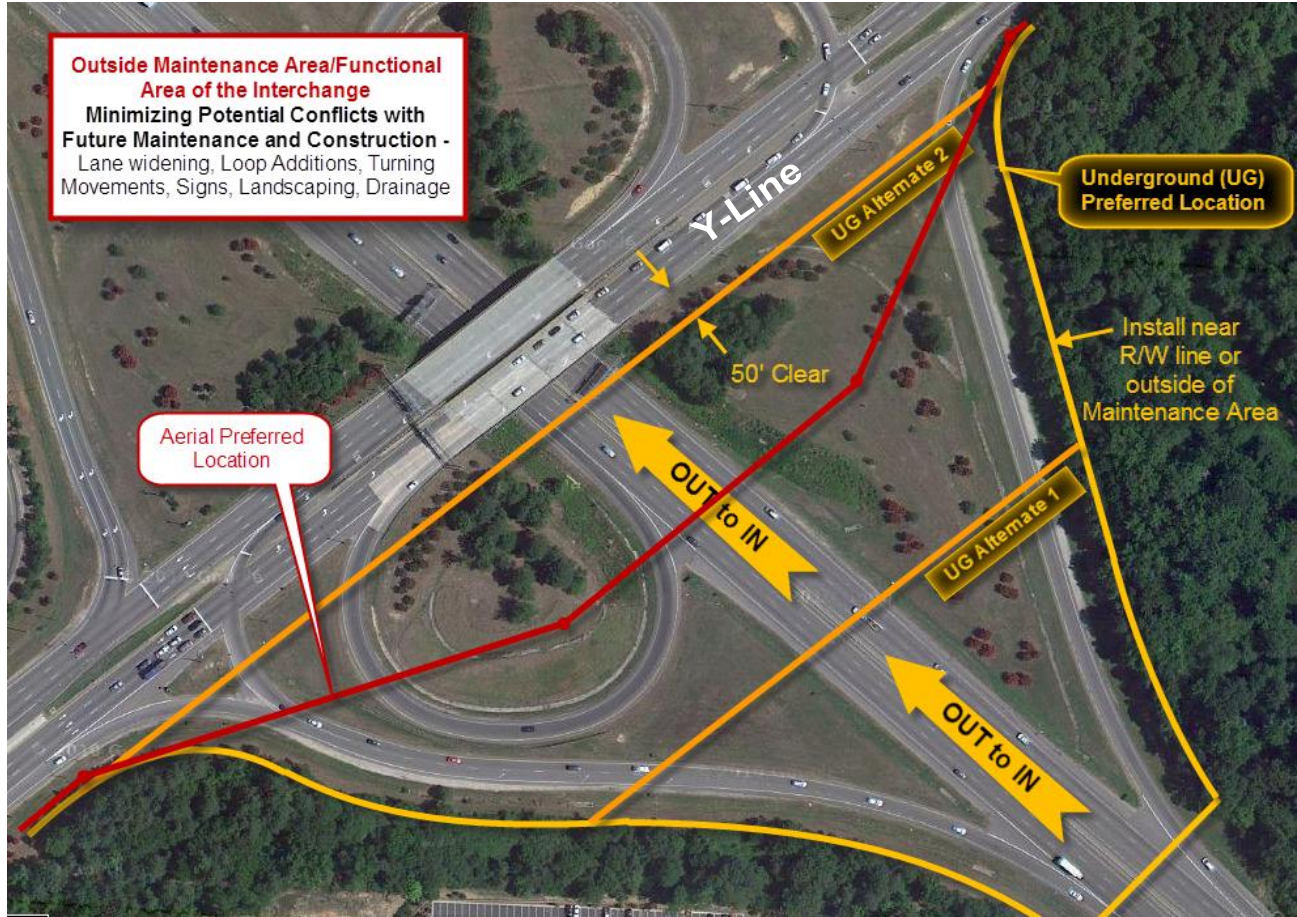

Figure 3
- iv. 50' clear minimum from rail on Y-line bridge (shown in Figure 3)